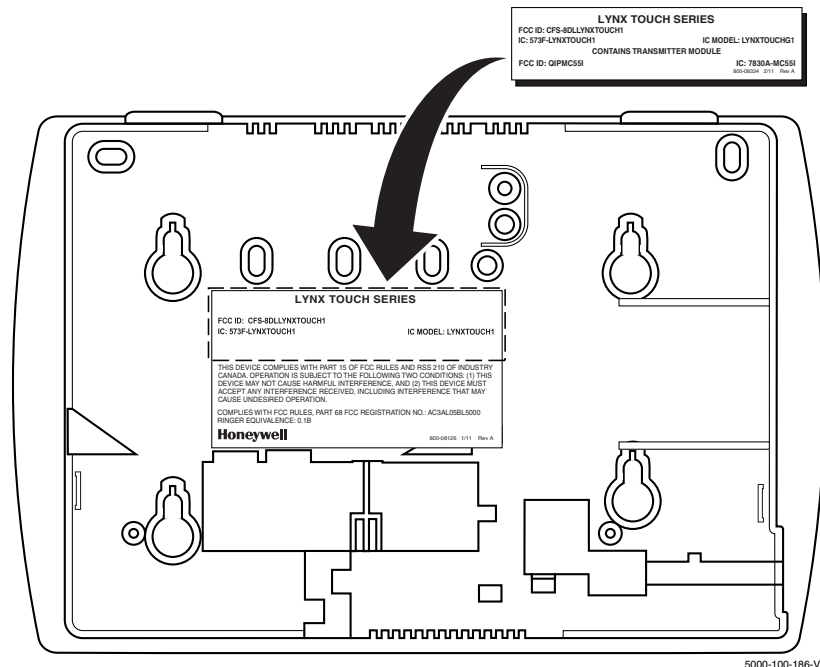

Figure 1. FCC/IC Label Location
1. Install the provided FCC/IC label (P/N 800-08334) on the control's case back (refer to Figure 1).